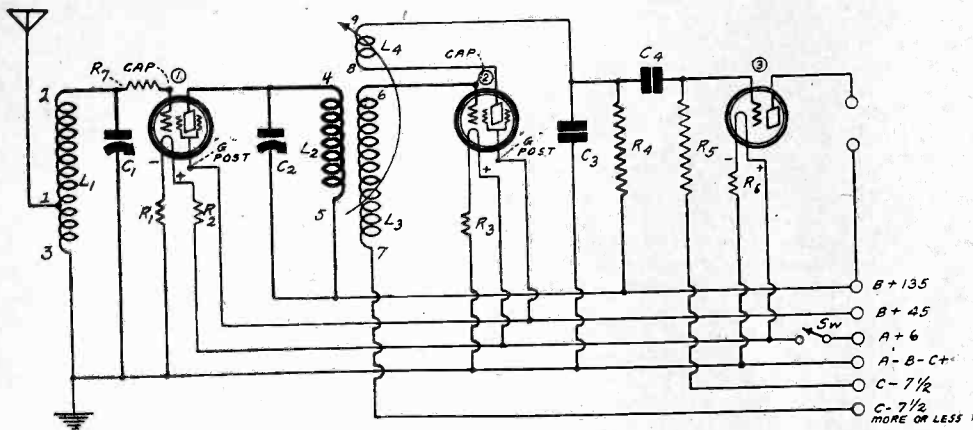

FIG. 707
(2)—Fig. 707 shows such a circuit in which screen grid tubes are used both for radio frequency amplifier and detector. The audio tube should be of the —12A or the —01A type since the push-pull stage will be coupled to it by means of a transformer.